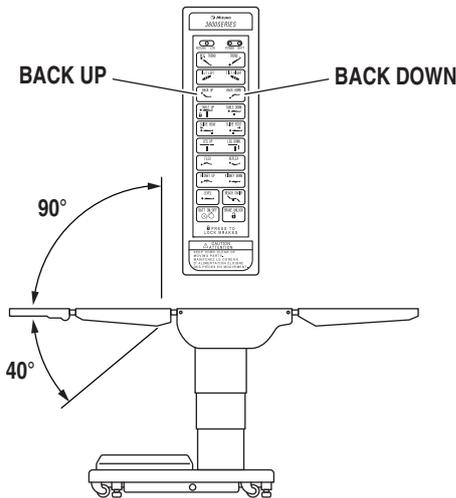

Figure 2-9. Back Section Positioning
d. Back Section To raise the back section, press the BACK UP button (figure 2-9). The back section will raise up to 90° above horizontal. To lower the back section, press the BACK DOWN button. The back section will go down to 40° below horizontal.